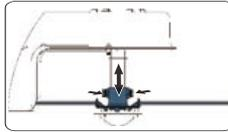

Figure 5-1.
2. Slide the spindle upward or downward to the desired position before retightening the bolts. See Figure 5-1